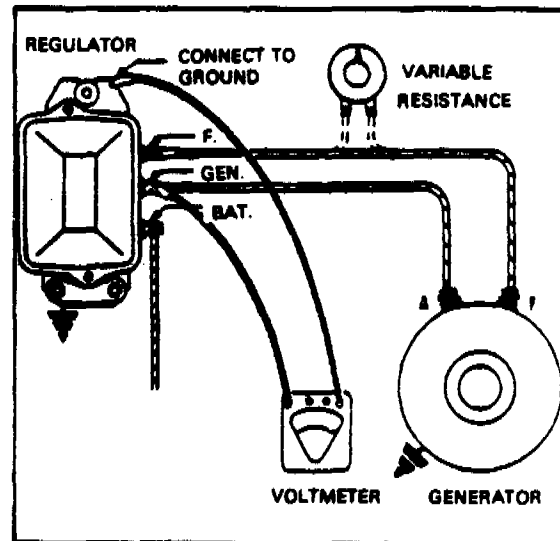

FIGURE 9-11. CHECKING CUTOUT RELAY CLOSING VOLTAGE
c. Closing Voltage - Connect regulator to proper generator and battery. Connect voltmeter between the regulator "GEN" terminal and ground (Figure 9-11).
Method 2 - Make connections as in Step (c), but in addition add a variable resistor connected into the field circuit (Figure 9-11). Use a 25 ohm-25 watt resistor. Operate generator at medium speed with variable resistance turned all in. Slowly decrease (turn out) the resistance until cutout relay points close. Note closing voltage. With cover in place slowly increase (turn in) resistance to make sure points open.